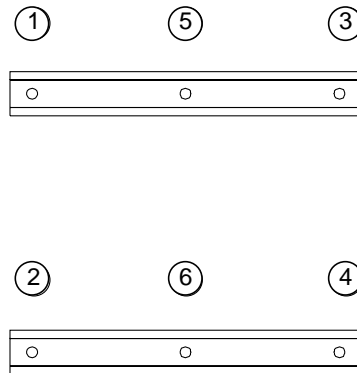

FIGURE 12 Tightening Pattern for the PCI I/O Module
- a. Tighten the captive connector screws in the sequence shown in FIGURE 12 until they touch the metal plate.
- b. Tighten each captive connector screw in the sequence shown in FIGURE 12 an additional half turn.
- c. Tighten the captive connector screws to a final torque of 0.68 Nm (6.0 inch pounds) in the pattern shown in FIGURE 12.